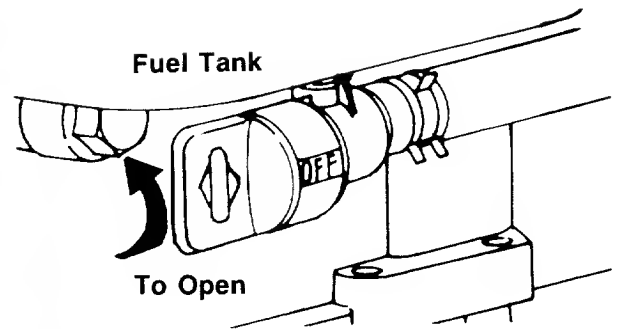

FIGURE 14.
4. **Deluxe Briggs and Stratton engines:** Open fuel shut-off valve. See figure 14.